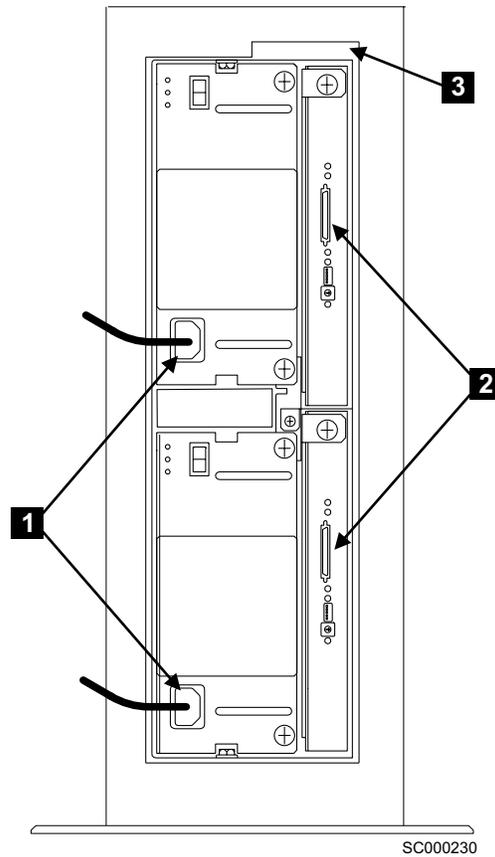

Figure 8. Power cables and SCSI connectors (2104 Model TS4)
1. Ensure that a power cable is plugged into each power socket **1**. See Figure 8.
Ensure that no external SCSI cables are connected at the SCSI connectors **2**. See Figure 8 on page xv.